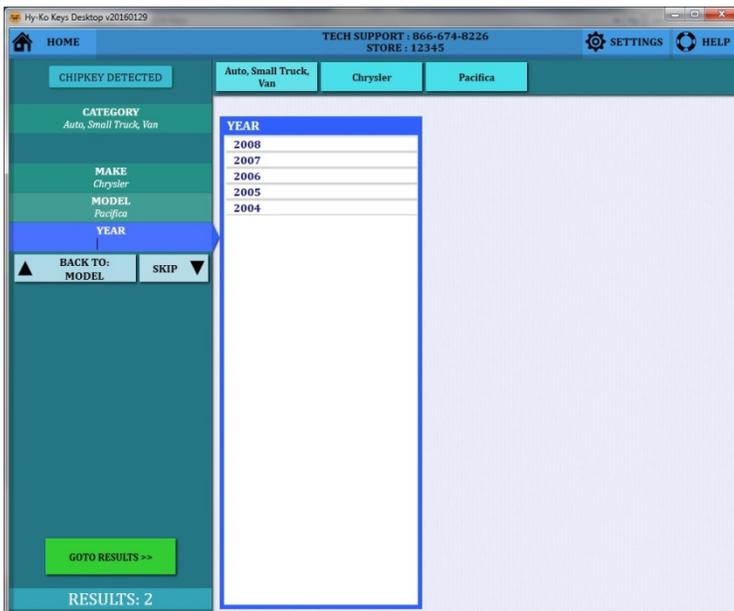

fig. 82
- Choose the Year by clicking on it from the list or by typing it in the 'YEAR' box on the left (see fig. 82).